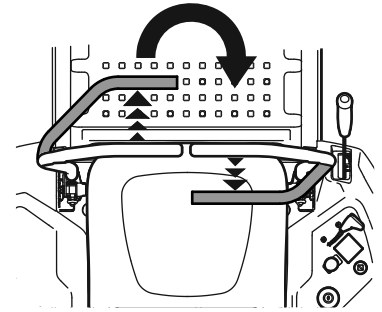

Figure 31
2. To turn clockwise, move the left lapbar drive control lever forward while simultaneously moving the right lapbar drive control lever rearward. See Figure 31.